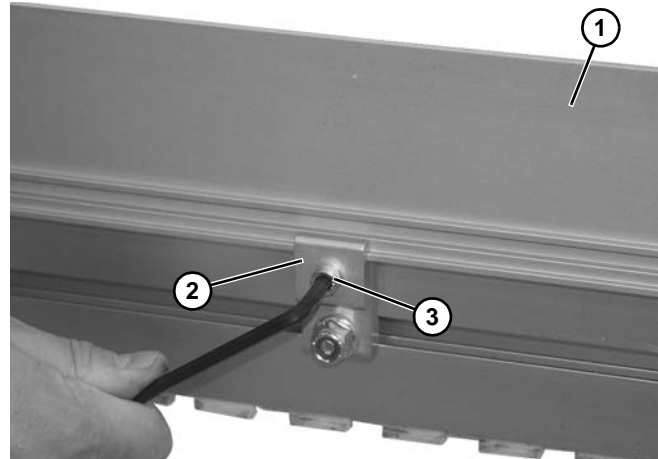

Figure 20
5. Install guide (Figure 20, item 1) and retaining clip (Figure 20, item 2) to conveyor side rail with socket head screw (Figure 20, item 3).